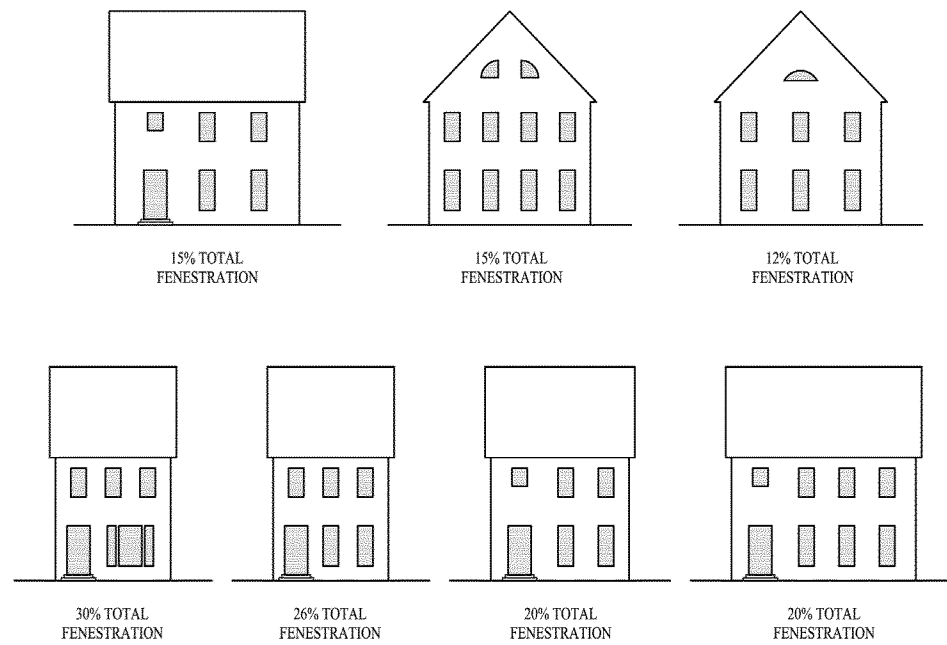

Figure 22
- » For residential buildings, total fenestration (rough window openings) on frontage elevations (not including a tower element above the eave) shall not exceed 50% of the total surface area. See Figure 22.